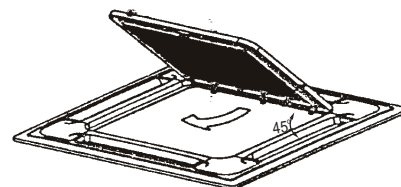

Fig.22
- b. Draw the grid up to an angle of about 30°, and remove it. (Refer to Fig.22)